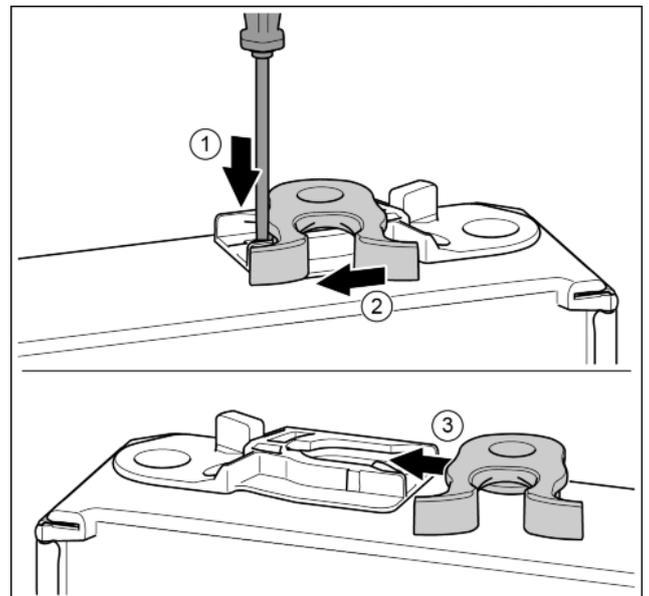

*Fig. 16*
- ▶ Remove the cover and fix onto the other side. *Fig. 16 (1)*
- ▶ Place the bearing bracket on the other side and screw in with the T25 screwdriver. Start with screw 2 at the bottom in the middle. *Fig. 16 (2)*
- ▶ Screw in screws 3 and 4. *Fig. 16 (3, 4)*
- ▶ Insert the bearing bolts completely. Ensure here that the catch mechanism points backwards. *Fig. 16 (5)*